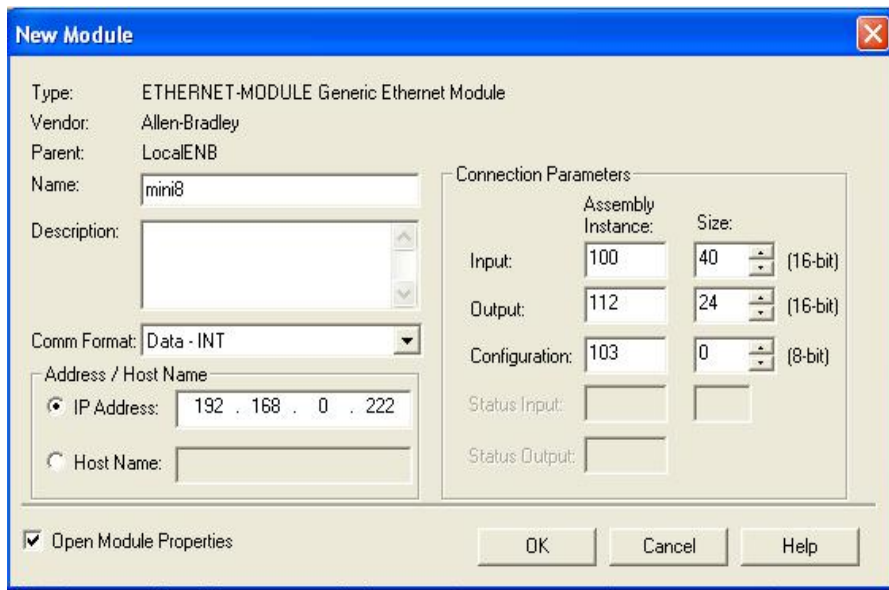

Figure 11-12: New Module
- In the New Module page that appears (Figure 11-12), enter a name for the module, and set Connection Parameter values:
6. Ensure Input and Output Size of EtherNet Module match exactly the Input and output Definitions (see Figure 11-12 New Module).
7. Ensure Assembly Instance values are supported by the Mini8 controller (see Figure 11-12 New Module)